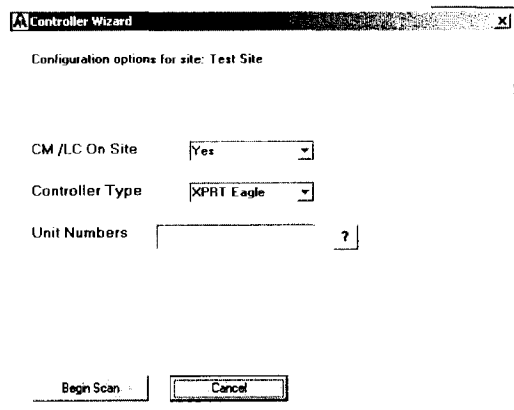

Figure C-22: Site Creation Wizard
9. Select "Create Site" from the menu and follow the Site Creation Wizard (See Figure C-22) and let it guide the Site Creation through the scanning and reading process.